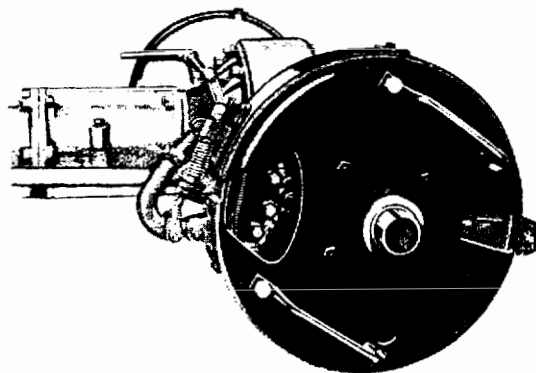

Fig. 98
adjusting brakes Tool 618 will be found of great convenience. Remove axle shaft, wheel and bearings, slide the gauge into position on the axle as shown in Fig. 98. The gauge represents, and is the same size as, the brake drums. Lubricate all clevis pins and other moving parts in the brake mechanism and work oil in by moving foot pedal and hand lever back and forth several times. Remove cotter pin from the adjusting screw (11) and screw clockwise until the brake lining at this point just clears the drum. Replace cotter. Loosen the adjusting nuts (8) and (9) under the stop (7), using the pair of special wrenches in the tool kit, and screw down until the lower half of the brake band comes up and just clears the drum. Then tighten both nuts securely. Next adjust nut (4); turn by half revolutions in a clockwise direction until the top half of the band just clears the drum. It should now be possible to revolve the drum without any binding or dragging of bands. Pull forward on link (5) until the end of screw (6) is approximately  $\frac{1}{4}$ " away from the stop. If adjustment is correct you will be unable to move drum with the hands. When the brake is fully applied by pushing down hard on the foot pedal the shortest distance from center of pin (13) in lever (10) to the drum should be approximately  $2\frac{3}{16}$ ". The foot pedal pad when completely depressed with the brake tight on the drum must be at least 2" from the floor board. If it is less than this figure the pull rod between the pedal and intermediate brake cross shaft may be shortened to correct this condition.